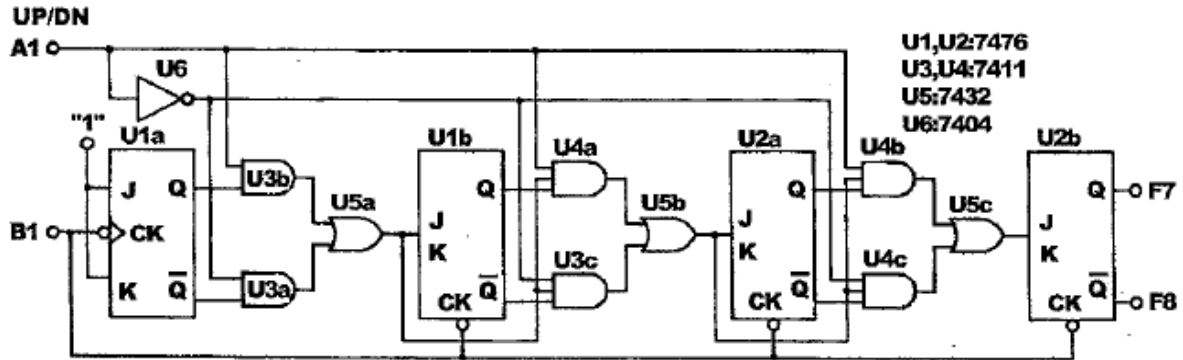

Figure 2.2
- An up counter scheme (the combination first stage's output Q with AND to enable JK of next stage) and a down counter scheme (the combination first stage's output  $\bar{Q}$  with AND to enable JK of next stage) are combined as an up/down counter with AND-OR logic gates, as shown in **Figure 2.2**.